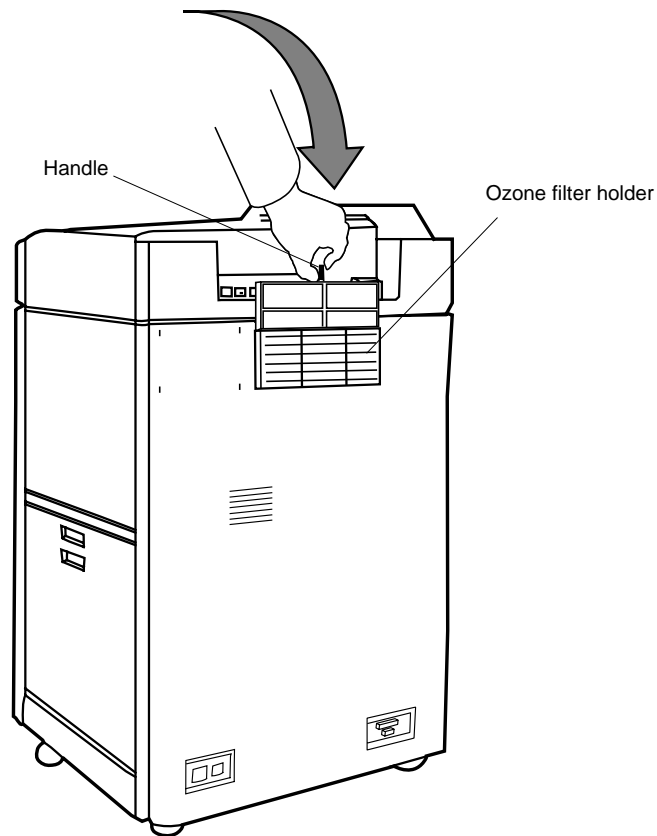

Figure 2-36 Inserting the Ozone Filter
2. Remove and insert the new ozone filter in its holder located on the rear cover. See Figure 2-36.